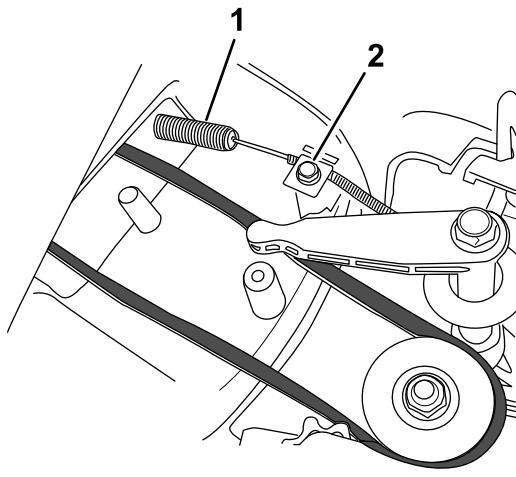

Figure 33
- Install the new blade-brake cable, but do not tighten the cable clamp on the top of the mower housing (Figure 33).
- Loosen the cable-clamp screw (Figure 33).